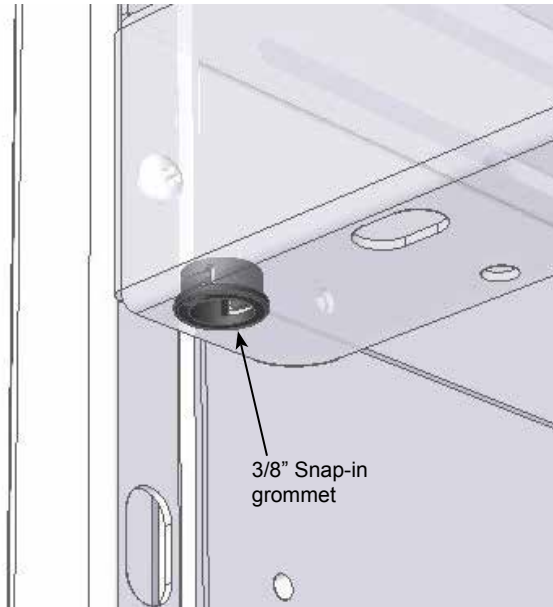

Figure 2A
1. Install (1) 3/8" Snap-in grommet into the upper corner of the door bay if one is not already installed. This will be the upper hinge point. **Figure 2A.**